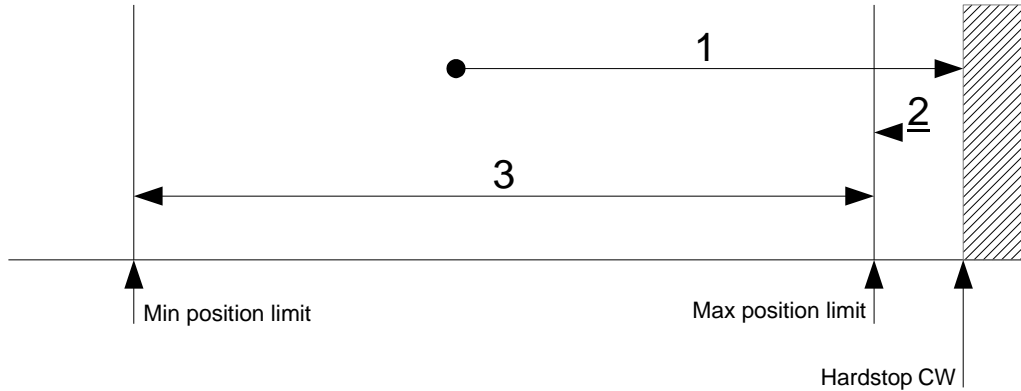

Figure 7: Single ended homing CW
For this homing method, the motor is driving with a constant positive velocity (6099h:2) clockwise into a hardstop (1) as shown in Figure 7. While driving into the hardstop, the actual motor current is measured and compared with the current threshold (2025h:4). If the current threshold is reached, the motor moves back by -PositionOffset\_CW (2025h:2) encoder steps (2). Then the motor is stopped and the actual position (6064h) is set to 0. The max position limit (607Dh:2) is also set to 0. The velocity is limited to (6099h:1). The min position limit (607Dh:1) will not be changed during this homing method and can be set before homing to limit the position range.